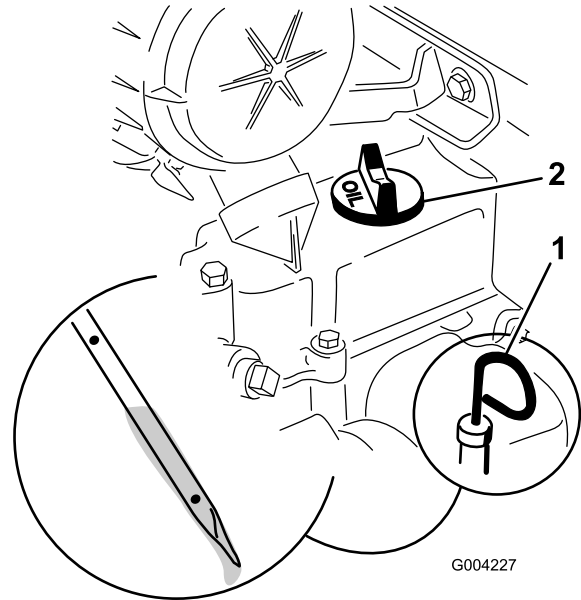

Figure 15
2. Remove the dipstick and wipe it with a clean rag (Figure 15).
3. Insert the dipstick into the tube and make sure that it is seated fully (Figure 15).
4. Remove dipstick and check the level of the oil (Figure 15).
5. If the oil level is low, remove the oil-fill cap (Figure 15), and add enough oil to raise the level to the Full mark on the dipstick.
6. Install the dipstick firmly in place (Figure 15).